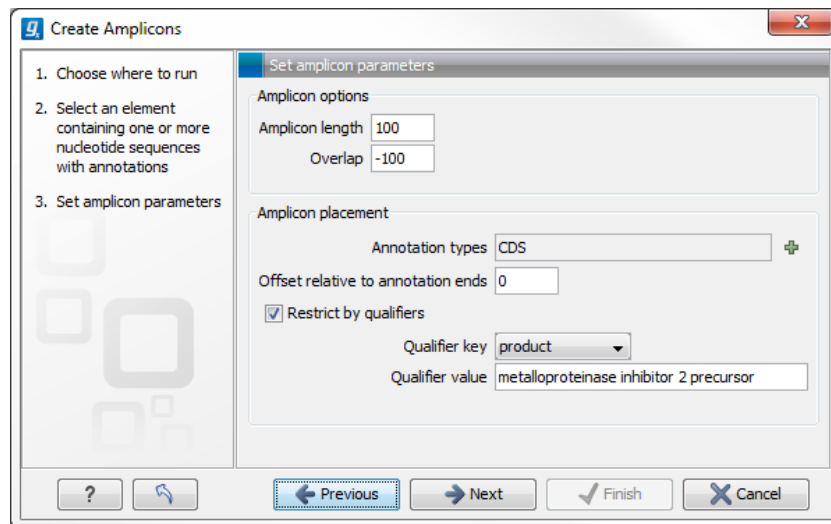
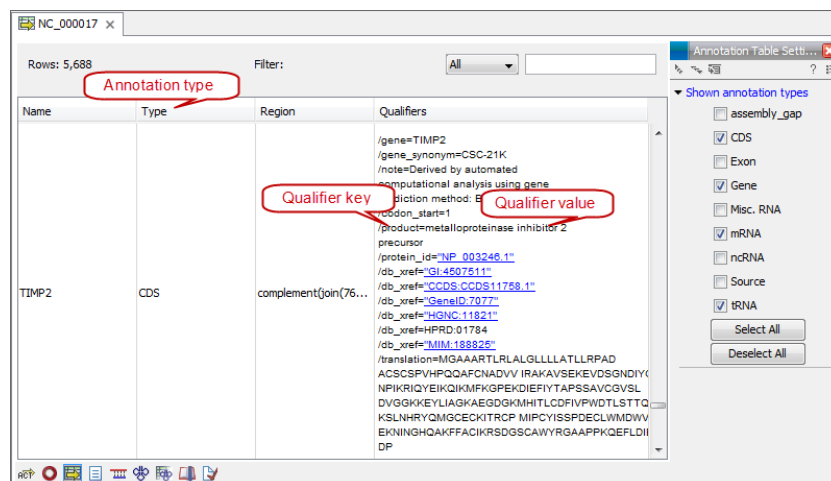

Figure 5.2: Specify parameters for the Create Amplicons tool.
Figure 5.3: Annotation type, qualifier key, and qualifier value.
Amplicon creation is directed by annotation types. This means that it is possible to create amplicons to e.g. all regions with a certain annotation (such as "scaffolds" or "genes") in the input sequence. However it is also possible to narrow down the region to be used for amplicon creation to for example single gene level. This is done using the "Restrict by qualifiers" function. The dialog shown in figure 5.2 allows specification of which regions should be used for amplicon creation.
- *Restrict by qualifier.* Enables restriction of annotations by qualifier (figure 5.2 and figure 5.3).